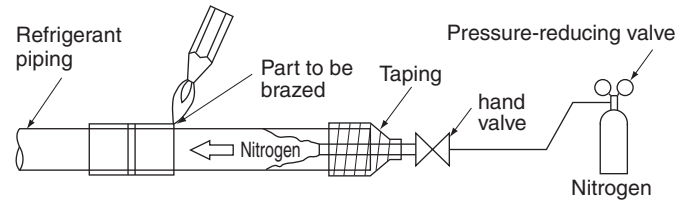

Fig. 7
- Perform nitrogen substitution or apply nitrogen into the refrigerant piping (see NOTE 1) in the case of refrigerant piping brazing (see NOTE 2). Then perform the flare connection of the indoor unit. **(Refer to Fig. 7)**